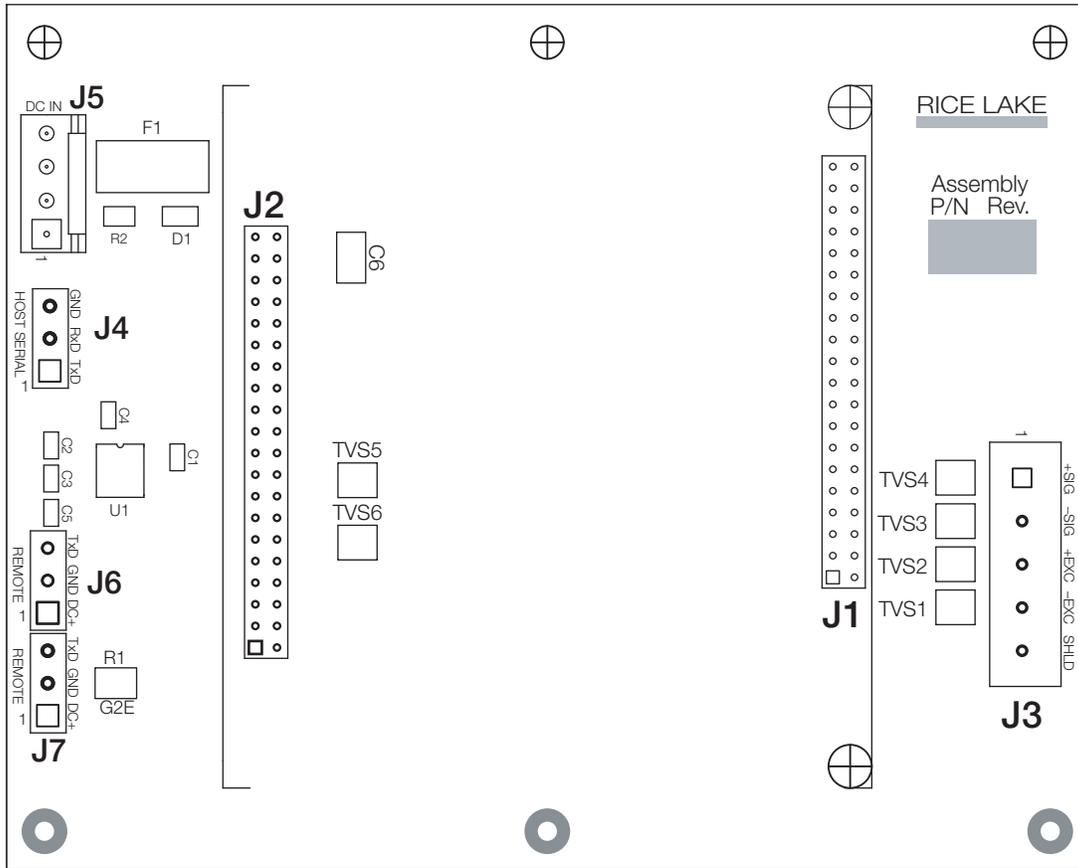

Figure 2-2. *iQube Connector Board with Core Module*
1. Power-off the *iQube*. Remotely powered units can be powered off by temporarily removing fuse F1 (see Figure 2-2 on page 3).
Fuse F1 on the *iQube* connector board (see Figure 2-2 on page 3) provides protection for power supplied to the connector board and core module at connector J5. Fuse F1 is poly resettable and does not need replacement. See Section 6.0 on page 17 for complete fuse specifications.